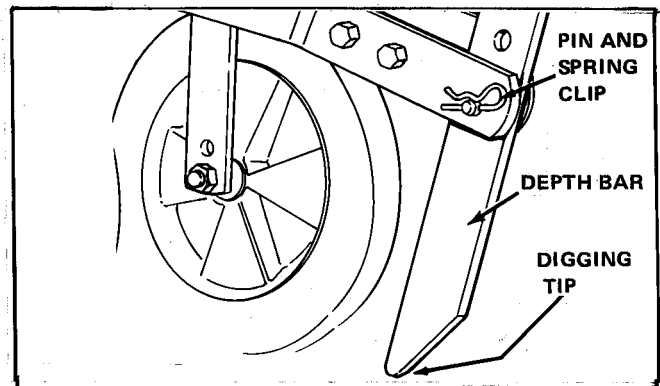

Figure 29. Depth Bar
2. Install the depth bar (see figure 29) with a pin and spring clip. The digging tip should be installed as shown.